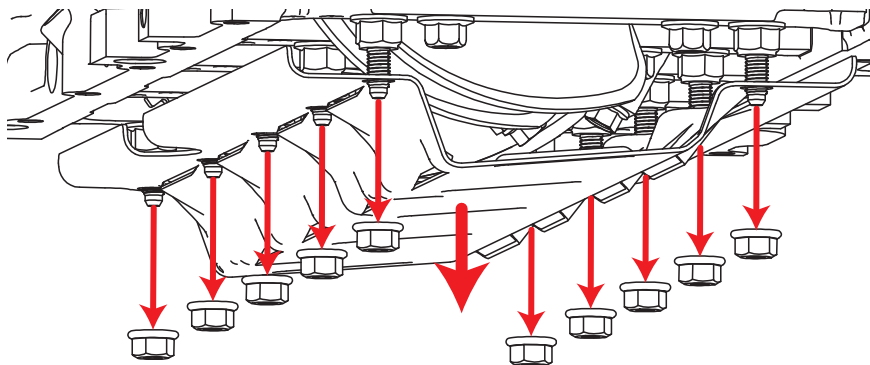

Figure 2 - Removing the Factory Windage Tray
7. Use a 13 mm (14mm for ARP studs) tool to completely remove the windage tray as shown in Figure 2.